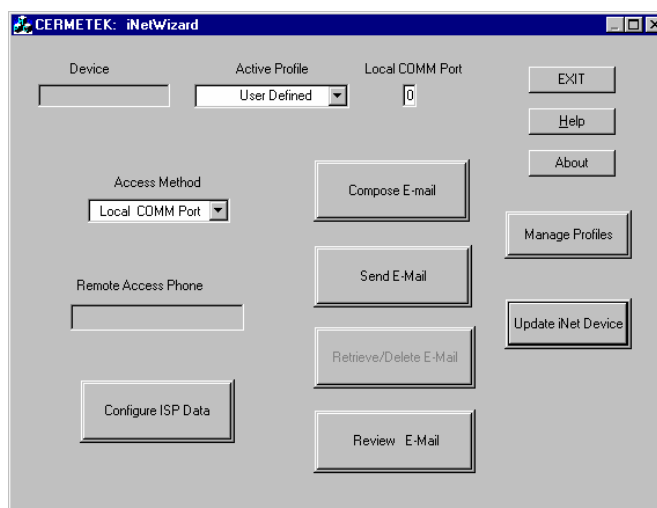

Figure 16. iNetWizard® Opening Window.
- Step 1. Access **iNetWizard®** using either Access Method 1 or Access Method 2 as described above. The Opening Window looks similar to the image in Figure 16. Note that the DEVICE Information dialog box does not contain any identification data and the RETRIEVE EMAIL button is grayed out.